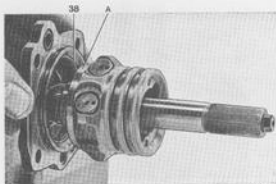
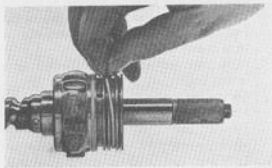

Fig. 6-89. Checking packing
Fig. 6-88. Fitting packing
3. Place the O-rings (63, 65 and 67) in the grooves on the worm. Carefully fit the packings (62, 64 and 66) in position on top of the O-rings, starting with the inner one (see Fig. 6-88).
4. Place the O-ring (37) in position in the cover (30). A 1.7 mm (0.067") packing (38) is placed on the O-ring.
Apply marking colour to the contact surface (A) and fit the worm (Fig. 6-89). Rotate the worm. Lift it out and check its contact against the packing. If the worm has not made a perfectly satisfactory sealing against the packing, replace the packing with a 1.8 mm (0.071") one.